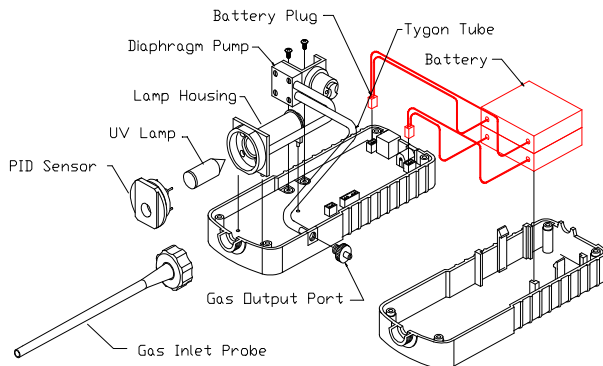

Figure 6.1 Main Components of MiniRAE Classic PID
As shown in Figure 6.1, the major items of MiniRAE Classic PID Unit that require periodic maintenance are:
2. Refer to Figure 6.1, unscrew the probe assembly, remove four screws that hold the back cover of the unit to gain access to the battery compartment.
2. Refer to Figure 6.1, unscrew the inlet probe, remove four screws on the instrument housing and open the. Partially remove the lamp housing by gently pulling up on both the front and rear of the housing. Leave the Tygon tubing and wires intact.
6. Referring to Fig. 6.1, insert the lamp housing into the three holes on the PCB. Make sure that the two Tygon tubes are not kinked or caught under the sensor module.
2. Refer to Figure 6.1 to unscrew the probe assembly by removing the sensor module from the PCB. Plug out the sensor block from the lamp house as described in Section 6.2.
2. Refer to Figure 6.1, unscrew the probe assembly, remove four screws and open the PID Unit.
3. Refer to Figure 6.1, and carefully remove two screws that hold the pump to the top cover. Disconnect two Tygon tubes connected to the pump. Note which tube goes to the inlet barb and which goes to the outlet barb of the pump. Disconnect the electrical wire from the pump to PCB. Remove the pump.